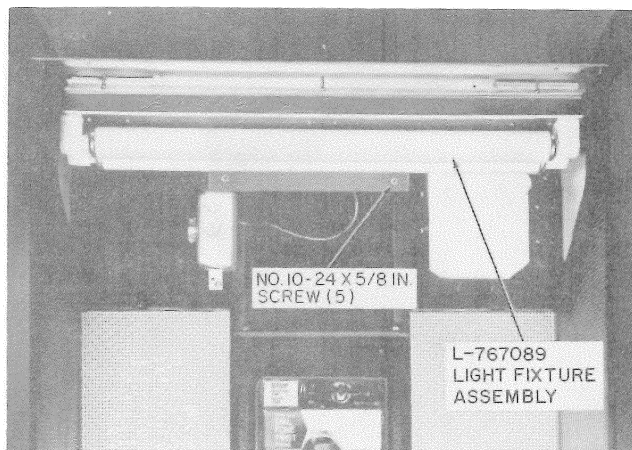

Fig. 25—Removing L-767089 Light Fixture Assembly From List 32 Housing
- 3.11** To remove the L-767089 light fixture assembly (Fig. 25) from the List 32 housing proceed as follows:
- (1) With the L-767061 diffuser removed from the housing 3.10(3) remove lamps then remove the two lower screws and loosen the three top 0.190 (10)-24 by 5/8 screws (Fig. 25).